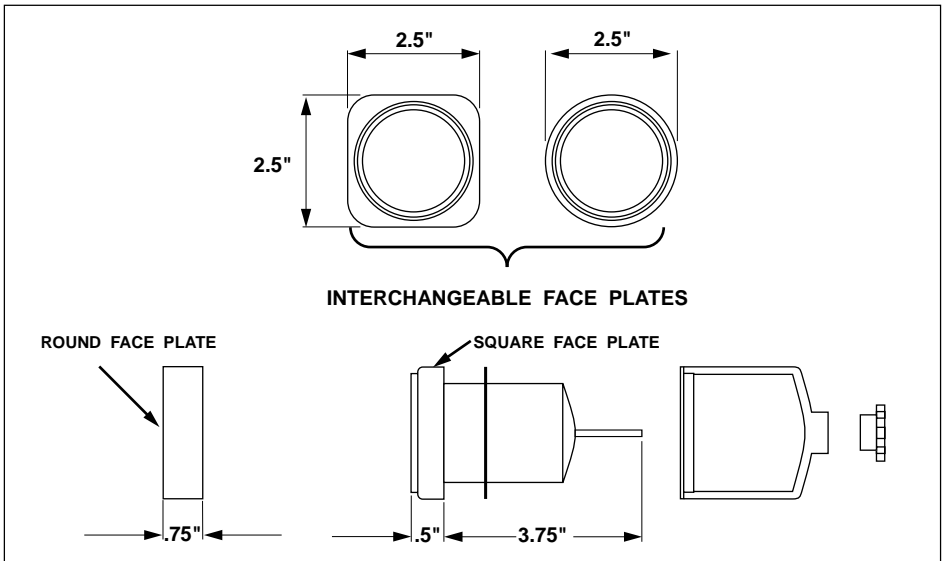

Figure 1. Depth Sounder Dimensions
- The space behind the instrument panel must have a depth of at least 3.75 inches. See Figure 1 for dimensions of the instrument.